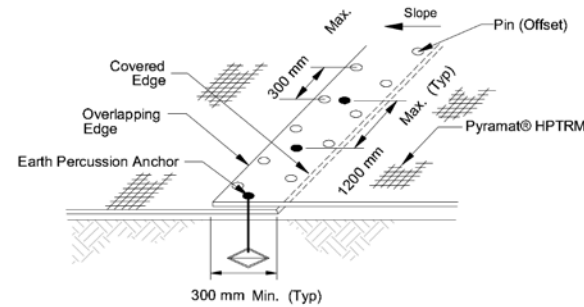

FIGURE 5: OVERLAP AT ROLL END DETAIL
- b: Roll end overlap: 300mm minimum overlap with upslope mat on top. Secure with two rows of ground pinning devices staggered 300mm apart on 300mm centers and with one row of earth percussion anchors on 1.2m centers (see Figure 5)